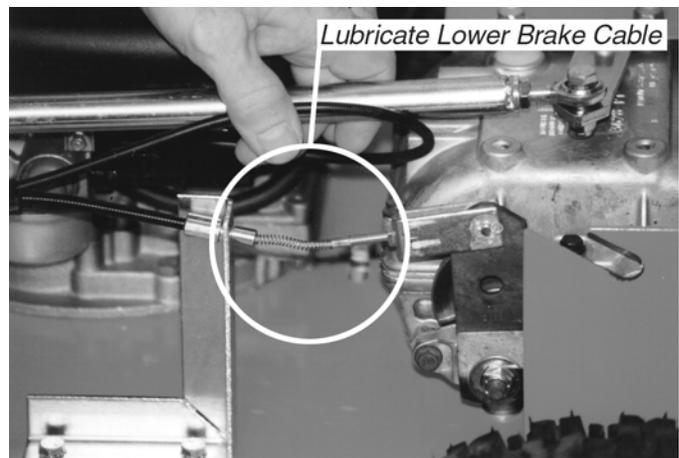

Figure 25
4. Lubricate the lower brake cable with FLUID FILM™ or similar lubricant (*Figure 25*). The lower brake cable is located on the right side of the machine just behind the front wheel.